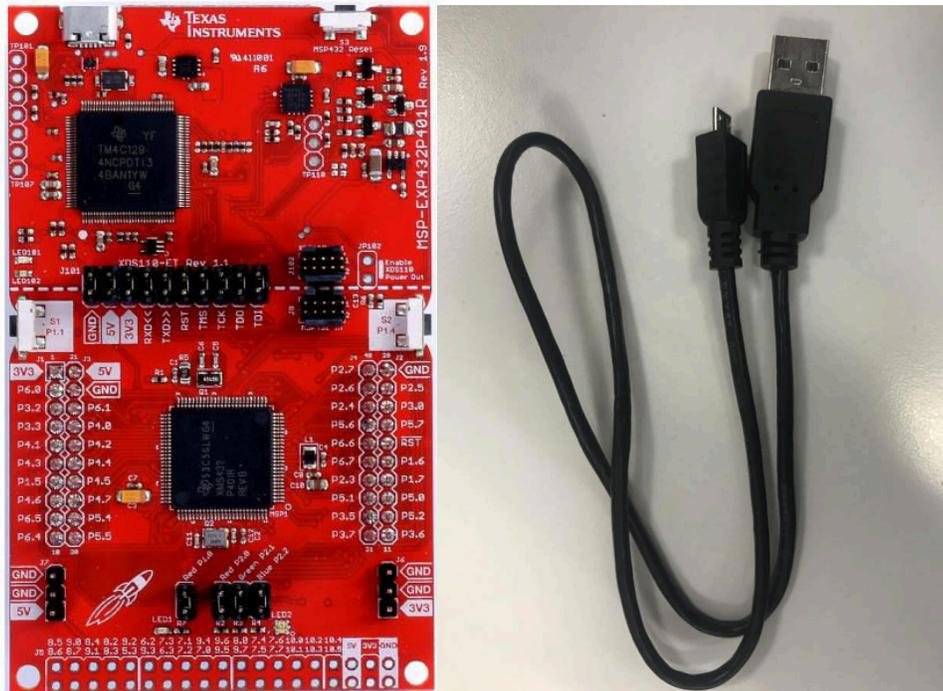

Figure 2-2. MSP-EXP432P401 Launchpad Kit
- MSP-EXP432P401 Launchpad kit(see Figure 2-2): MSP-EXP432P401 Launchpad & Micro USB cable